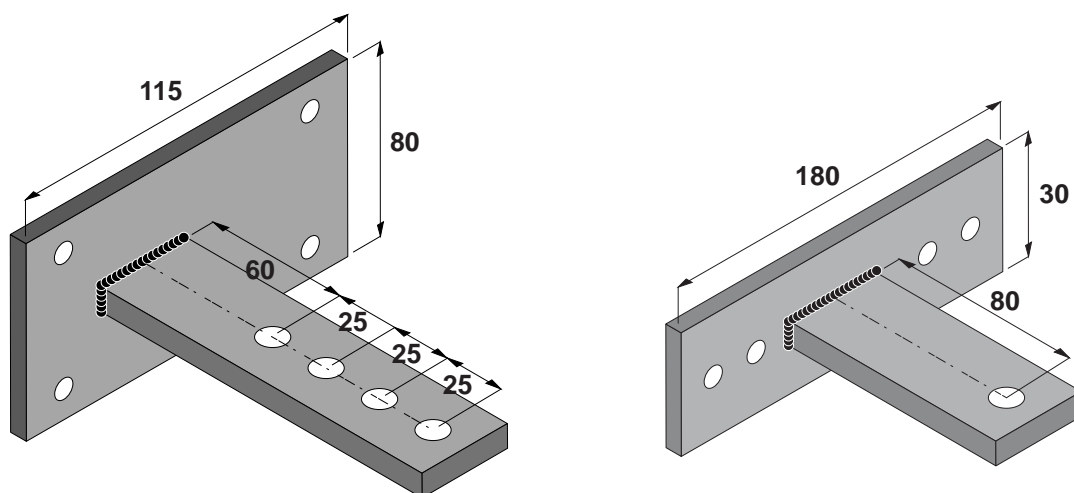

Fig. 2
2.2 Accessories (fig. 2): SILVER PF